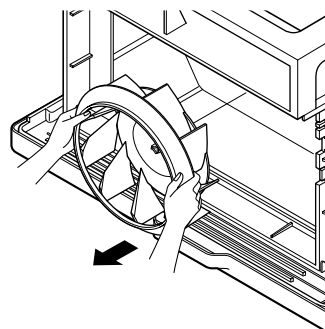

FIG. 30
9. Remove the turbo fan with plier or your hand without touching blades. (See Fig. 30)